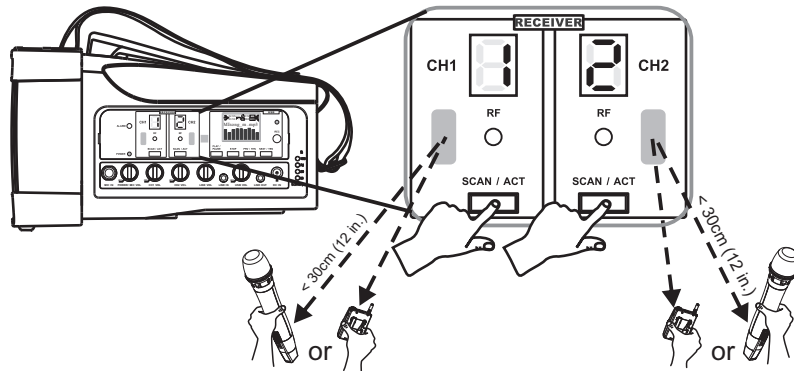

Fig. 6
- #### (E) MA-100DG/SG ID CODE set-up: ID CODE helps avoid the same channel interference from each other at the same venue. It is recommended where multiple channels are used concurrently. This system provides 16 ID codes (0, 1, 2, 3, 4, 5, 6, 7, 8, 9, A, B, C, D, E, F).
- (1) Press and hold SCAN button and concurrently, turn on the Power Switch. Release SCAN button when LED display glows to indicate ID CODE is activated. Press & release SCAN button once move one number up. Turn off the power to save the change when a number is selected.
- (2) Turn on the system power again and perform the ACT synchronization (refers to “ACT Synchronization (Sync) between Receiver and Transmitter Channels.”) to ensure transmitter and receiver ID CODE are synchronized and working properly.
(F) ACT Synchronization (Sync) between Receiver and Transmitter Channels, Fig. 6:
- (1) Press and release SCAN/ACT button, the current channel blinks and is ready for ACT synchronization.
- (2) Power on handheld or bodypack transmitter. Bring the transmitter sync port (red indicator) within 30 cm (12-inch) of CH 1 or CH 2 receiver sync port.
- (3) Once ACT synchronization is done, the channel screen will stop blinking and RF indicator glows green to indicate a successful RF link.
- (4) To cancel an accidental activation of ACT function, just press SCAN/ACT button again.